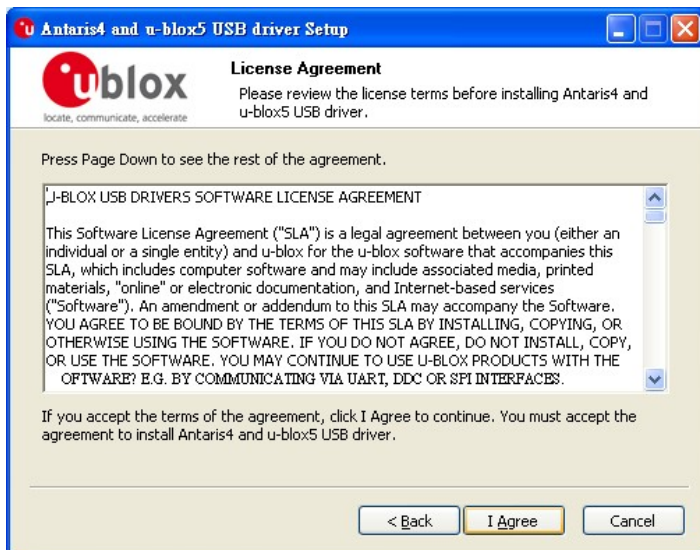

Figure 5-32: GPS Driver Choose Install Location
**Step 6:** The license agreement in Figure 5-32 appears.